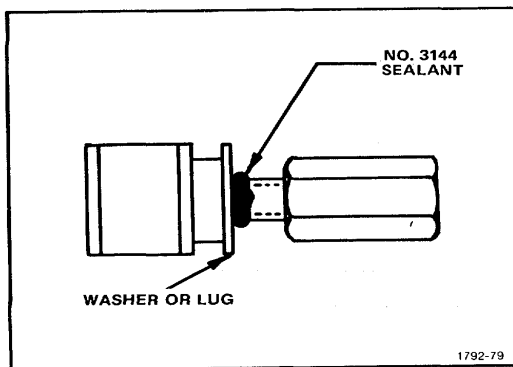

Figure 5-26. Application of sealant to the GAIN or the 0-dB SET control bushing.
22. Install the VAR control and the GAIN control (see Figs. 5-26 and 5-27)
1. Partially unscrew Hex spacer nut and form a bead of No. 3144 sealant around the bushing threads as shown in Fig. 5-26.